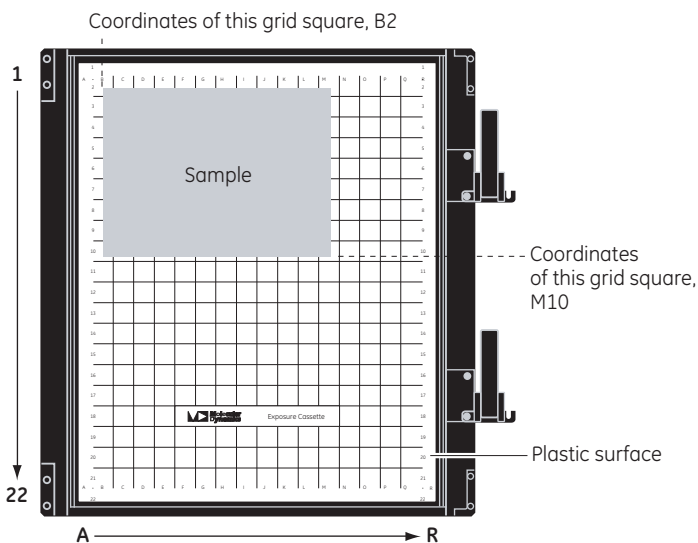

Fig 5-2. Placing the sample in the exposure cassette.
- To avoid possible edge effects on the image, you should place the sample at least 1 cm (0.4 in) from the edge of the screen. For example, use the area B2 through J13 for the small screens and the area B2 through Q21 for the large screens, as shown in fig 5-2.
- Position a rectangular sample so that the shortest edge is along the numbered side of the exposure cassette as shown in fig 5-2. Because each pass of the scan head moves the entire length of the glass platen (from front to back), placing the longest edge of the sample along the scan head path minimizes the scan time. The scan head path is from A to R.
- Align the lanes and rows of the sample with the edges of the grid so that the scanned image will be straight, as shown in fig 5-2.
- 3 Make a note of the grid coordinates of the area you want to scan (as shown in fig 5-2). The grid coordinates in the exposure cassette also appear in the Typhoon instrument (section 6.3) and in the Scanner Control window (section 6.5.3).